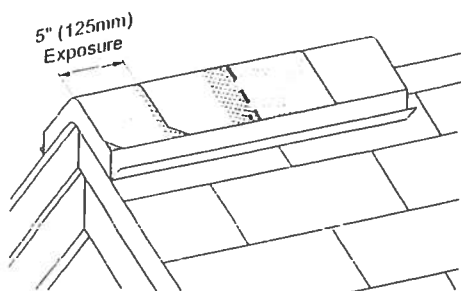

Figure 15-18: Install cap shingles at their correct exposure and cover all fasteners.
2. Install caps beginning at the bottom of a hip or at either end of a ridge. Apply a starter piece that has the bottom 5" (5 $\frac{5}{8}$ " for metric) removed (Figure 15-18). Fasten the starter with two nails located about 3" from the rake edge, and 1" in from each side edge. Make sure fasteners used to apply caps penetrate at least $\frac{3}{4}$ " into or through the decking.
3. Apply a full cap shingle over the starter (Figure 15-18), and place fasteners at 5 $\frac{5}{8}$ " (6 $\frac{1}{4}$ " for metric) up from the exposed bottom edge and 1" in from each side. Nails must not be exposed on the finished roof. All nail heads must be driven straight and must not cut into the shingle surface.